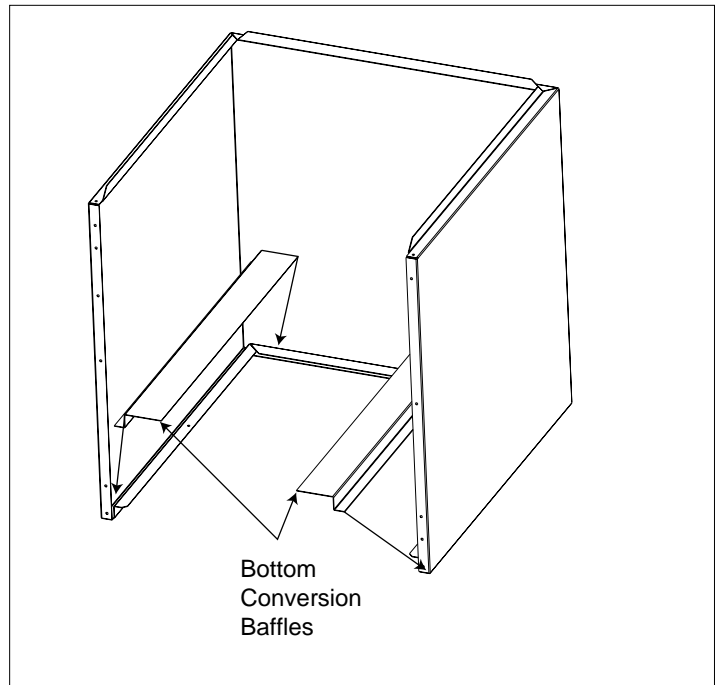

Figure 1
- 3) Place the bottom conversion baffles into the bottom left and right sides of the coil case. The 1/2" flange angles should sit in the channels along the perimeter of the coil case bottom air opening. The base of the coil will rest on and seal against the large 2" flanges. (See Figure 1.)